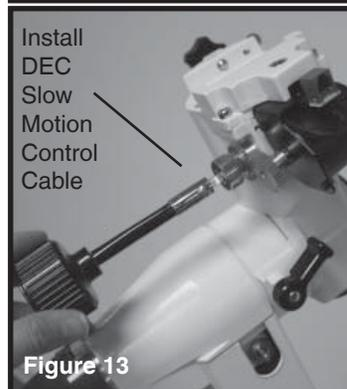

Figure 13
4. The DEC slow motion control cable that came with the mount can now be secured as described in the LX70 instructional manual. See Figure 13.